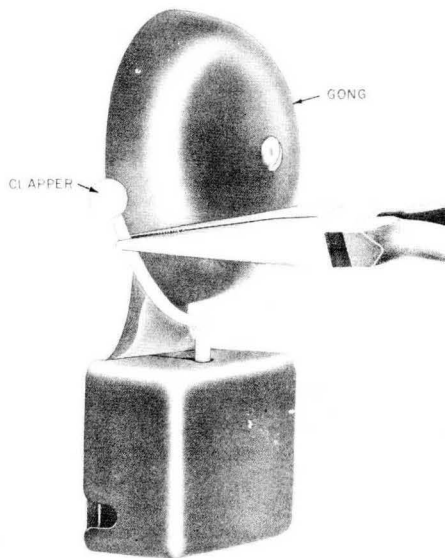

Fig. 19—Adjusting Clapper Movement
- 4.13** If 7-type bell armature vibrates satisfactorily, but the clapper does not strike gong or clapper arm strikes cover, adjust with long-nose pliers (Fig. 19).